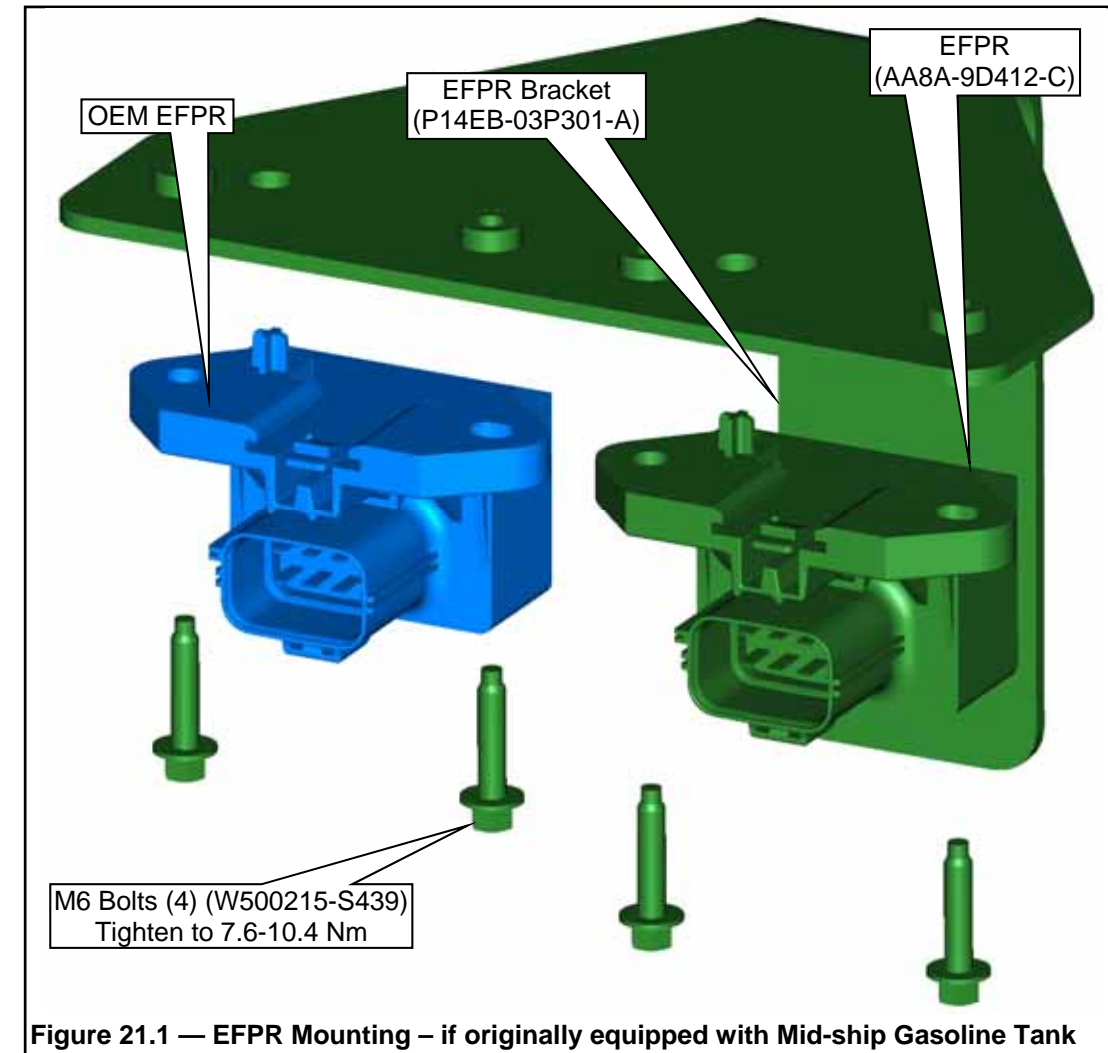

Figure 21.1 — EFPR Mounting – if originally equipped with Mid-ship Gasoline Tank
10. Disconnect the electrical connector from the OEM EFPR. Remove the OEM EFPR from the mounting bracket. **Figure 21.1.**
11. Position the Roush and Ford EFPR to the new EFPR mounting bracket. Install the four (4) M6 bolts. Tighten to 7.6-10.4 Nm. The new EFPR, bracket and fasteners are supplied in hardware kit P14EB-ELECKIT-A.
NOTE: The tank mounting hardware (**Figure 21.1**) is the same for all of the mounting holes of each bracket. The mounting hardware is found in hardware kit P14EB-TANK-A.